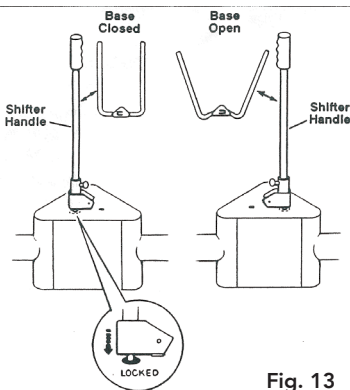

Fig. 13
3. Turn the handle **CLOCKWISE** until you are able to secure the lock pin into the opposite mounting hole to fully open the legs of the base. See Fig. 13.